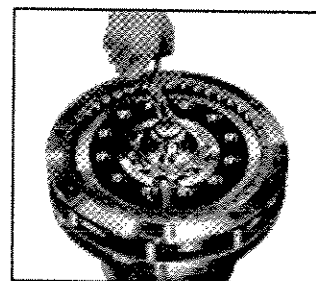

Fig. 15
4. Insert the spacer (3-07) and then insert the eccentric with bearings by rapping with a wooden or hard rubber mallet (Fig. 15).